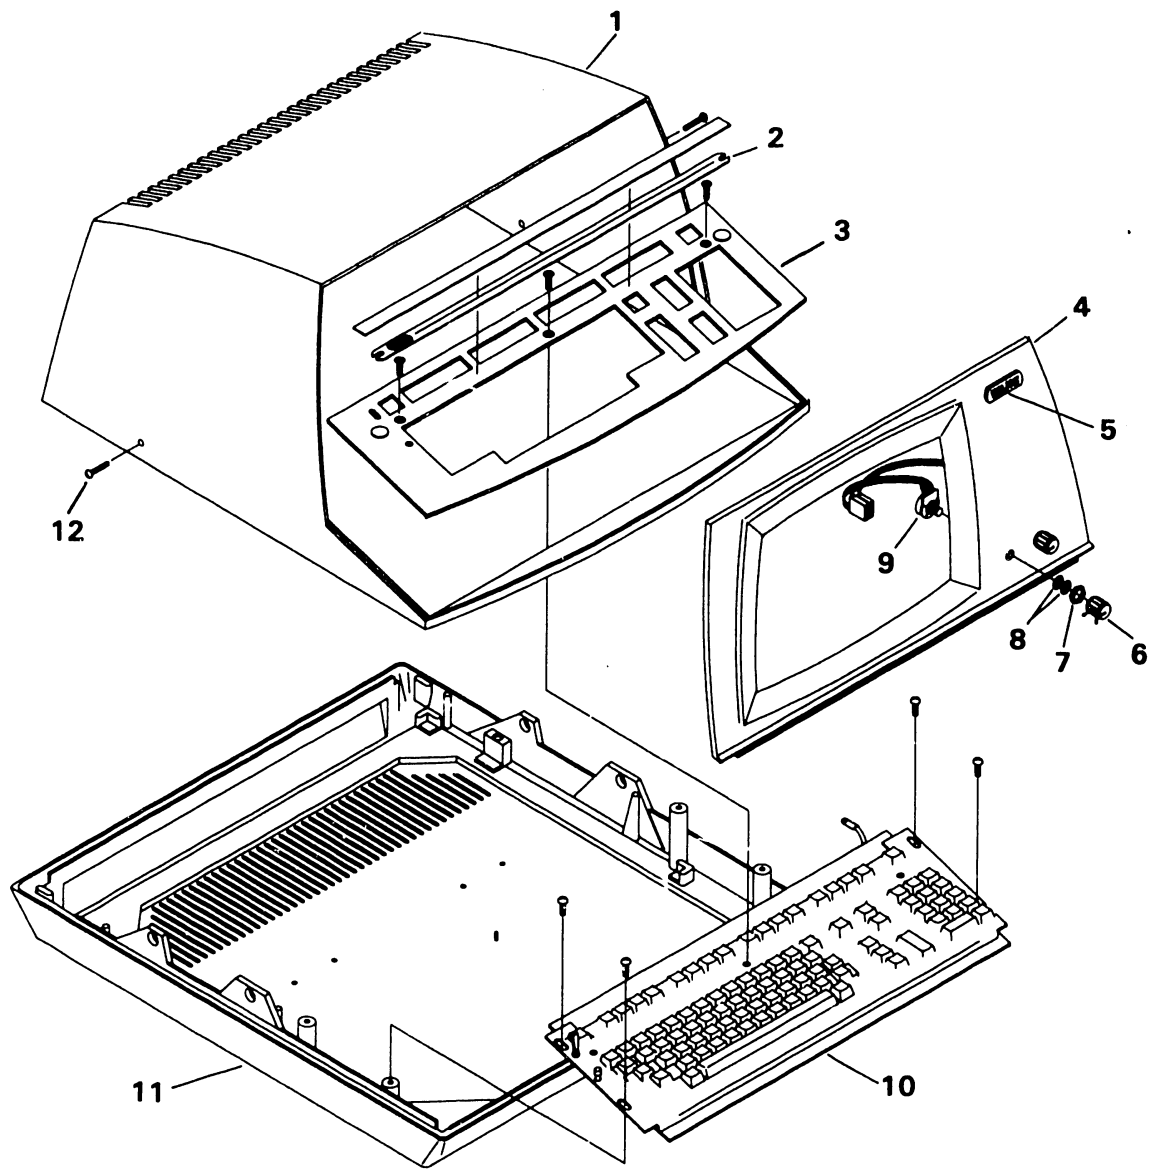

FIGURE 14 EXTERNAL COVERS ASSEMBLY
- Figure 14. External Covers Assembly